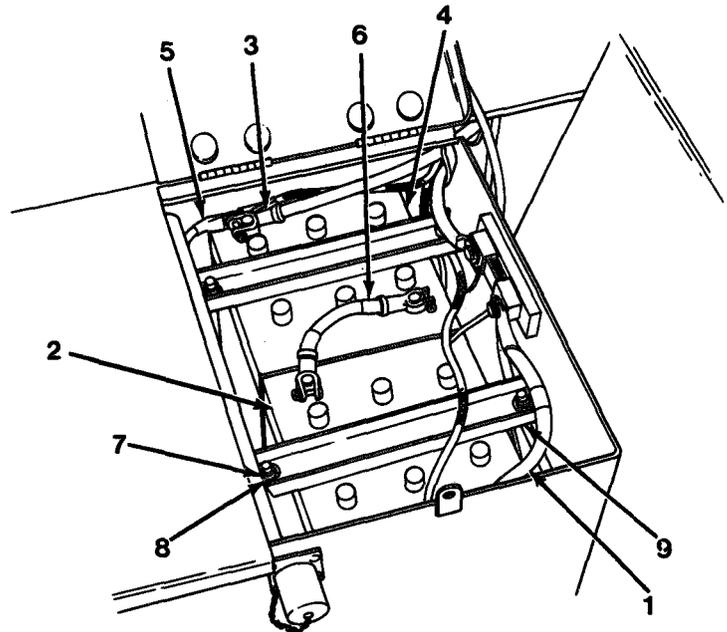

Figure 10-1
2. Disconnect ground cable (1) from battery (2), Figure 10-1).
3. Disconnect black wire from ground cable (1).
4. Disconnect positive cable (3) from battery (4).
5. Disconnect two white wires and cable (5) from cable (3).
6. Remove jumper cable (6) from batteries (2) and (4).
7. Remove four nuts (7), washers (8) and two battery clamps (9).